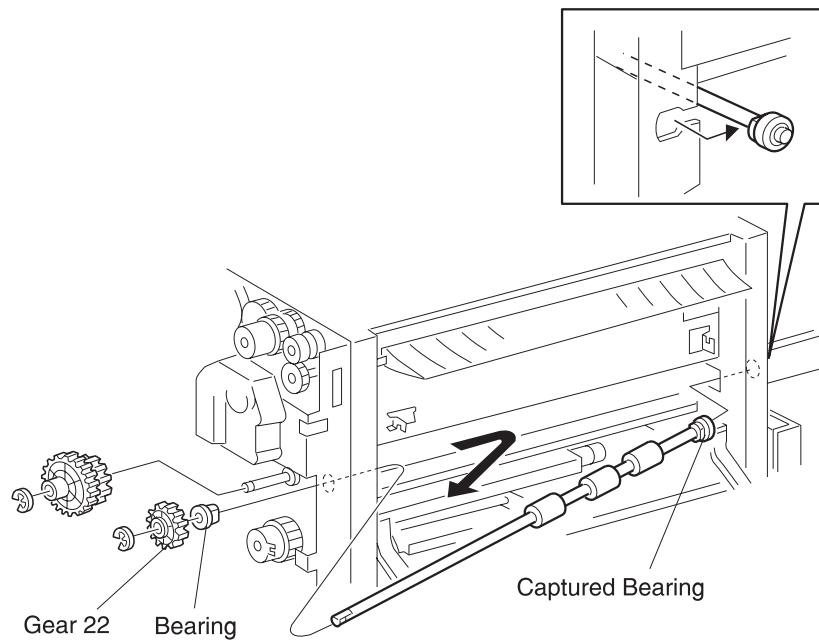

Figure 3
10. Remove the E-ring securing Gear 22 to the Take Away Roll shaft (Figure 3).
1. Slide the captured bearing end of the Take Away Roll shaft into the bearing hole at the front of the HCF frame (Figure 3).